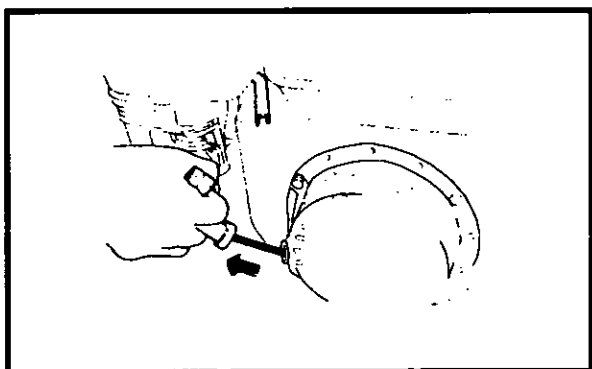

Figure 5-9 Recoil Starter operation
5. Pull the starter grip likely until resistance is felt, then pull forcibly while holding the operation handle, Refer Figure 5-9.